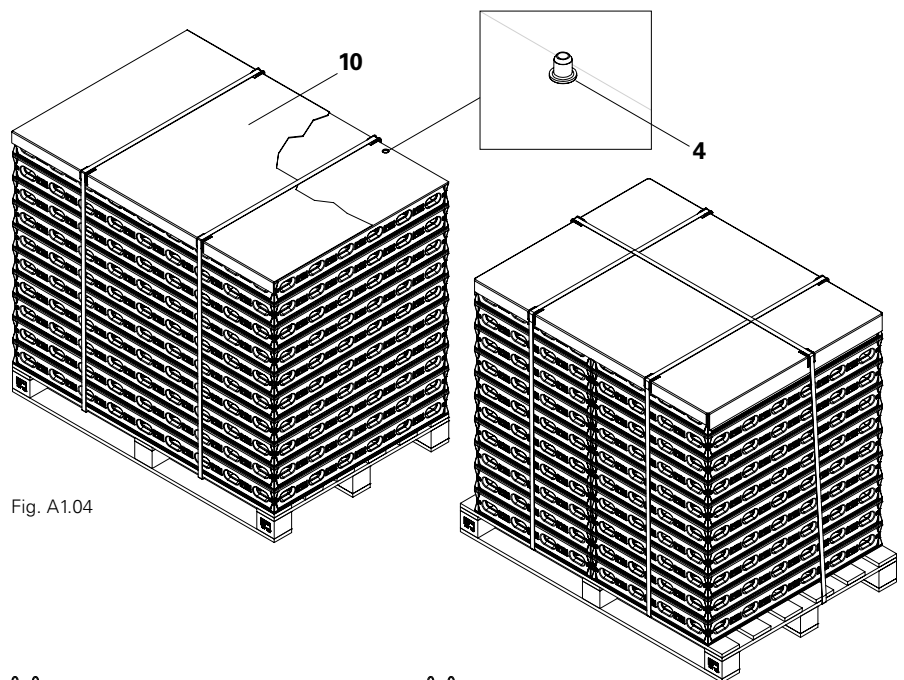

Fig. A1.04
- Stack all panels with the formlining facing upwards. Place a protective sheet on the top panel in order to prevent damage to the formlining. (Especially important when placing several stacks on top of one another.) (Fig. A1.04)